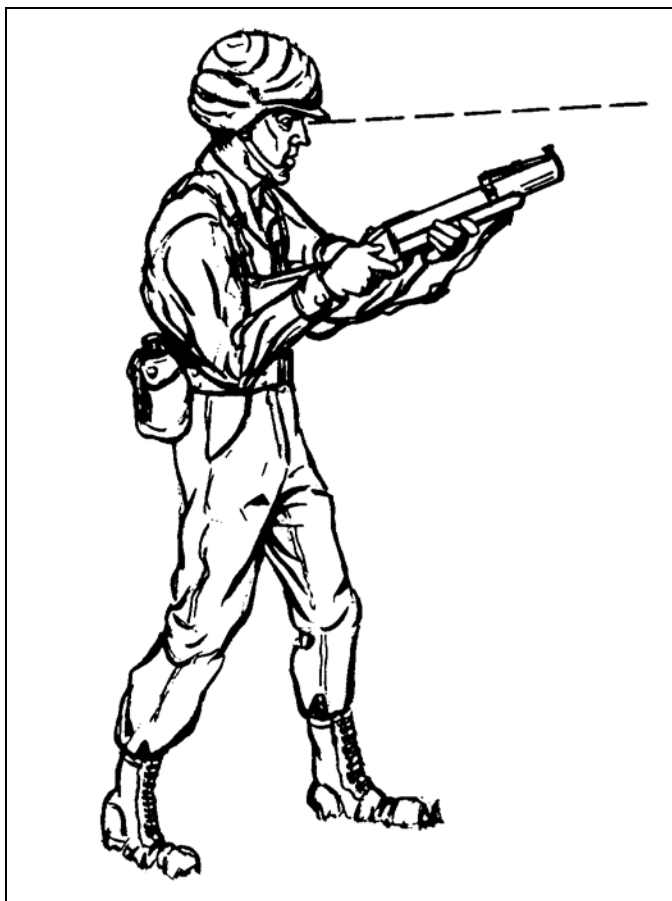

Figure A-22. Pointing technique.
(4) When pinpoint accuracy is not required, use the pointing technique to deliver a high rate of HE fire (Figure A-22, page A-18). The pointing technique uses a modified underarm firing position without using the sights. Keep both eyes open, concentrate on the target, and keep the muzzle of the launcher in position so you can easily adjust your fire. This technique is most useful in an assault because it allows you to reload rapidly with your left hand. However, you can use it in any standard firing position.